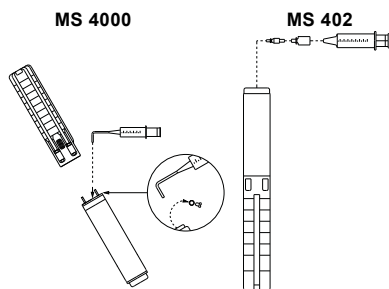

Fig. 3 Pump position during filling, MS 4000 and MS 402
1. Position the submersible pump as shown in fig. 3.
4. Inject liquid into the motor with the filling syringe as shown in fig. 3 until the liquid runs back out of the filling hole.